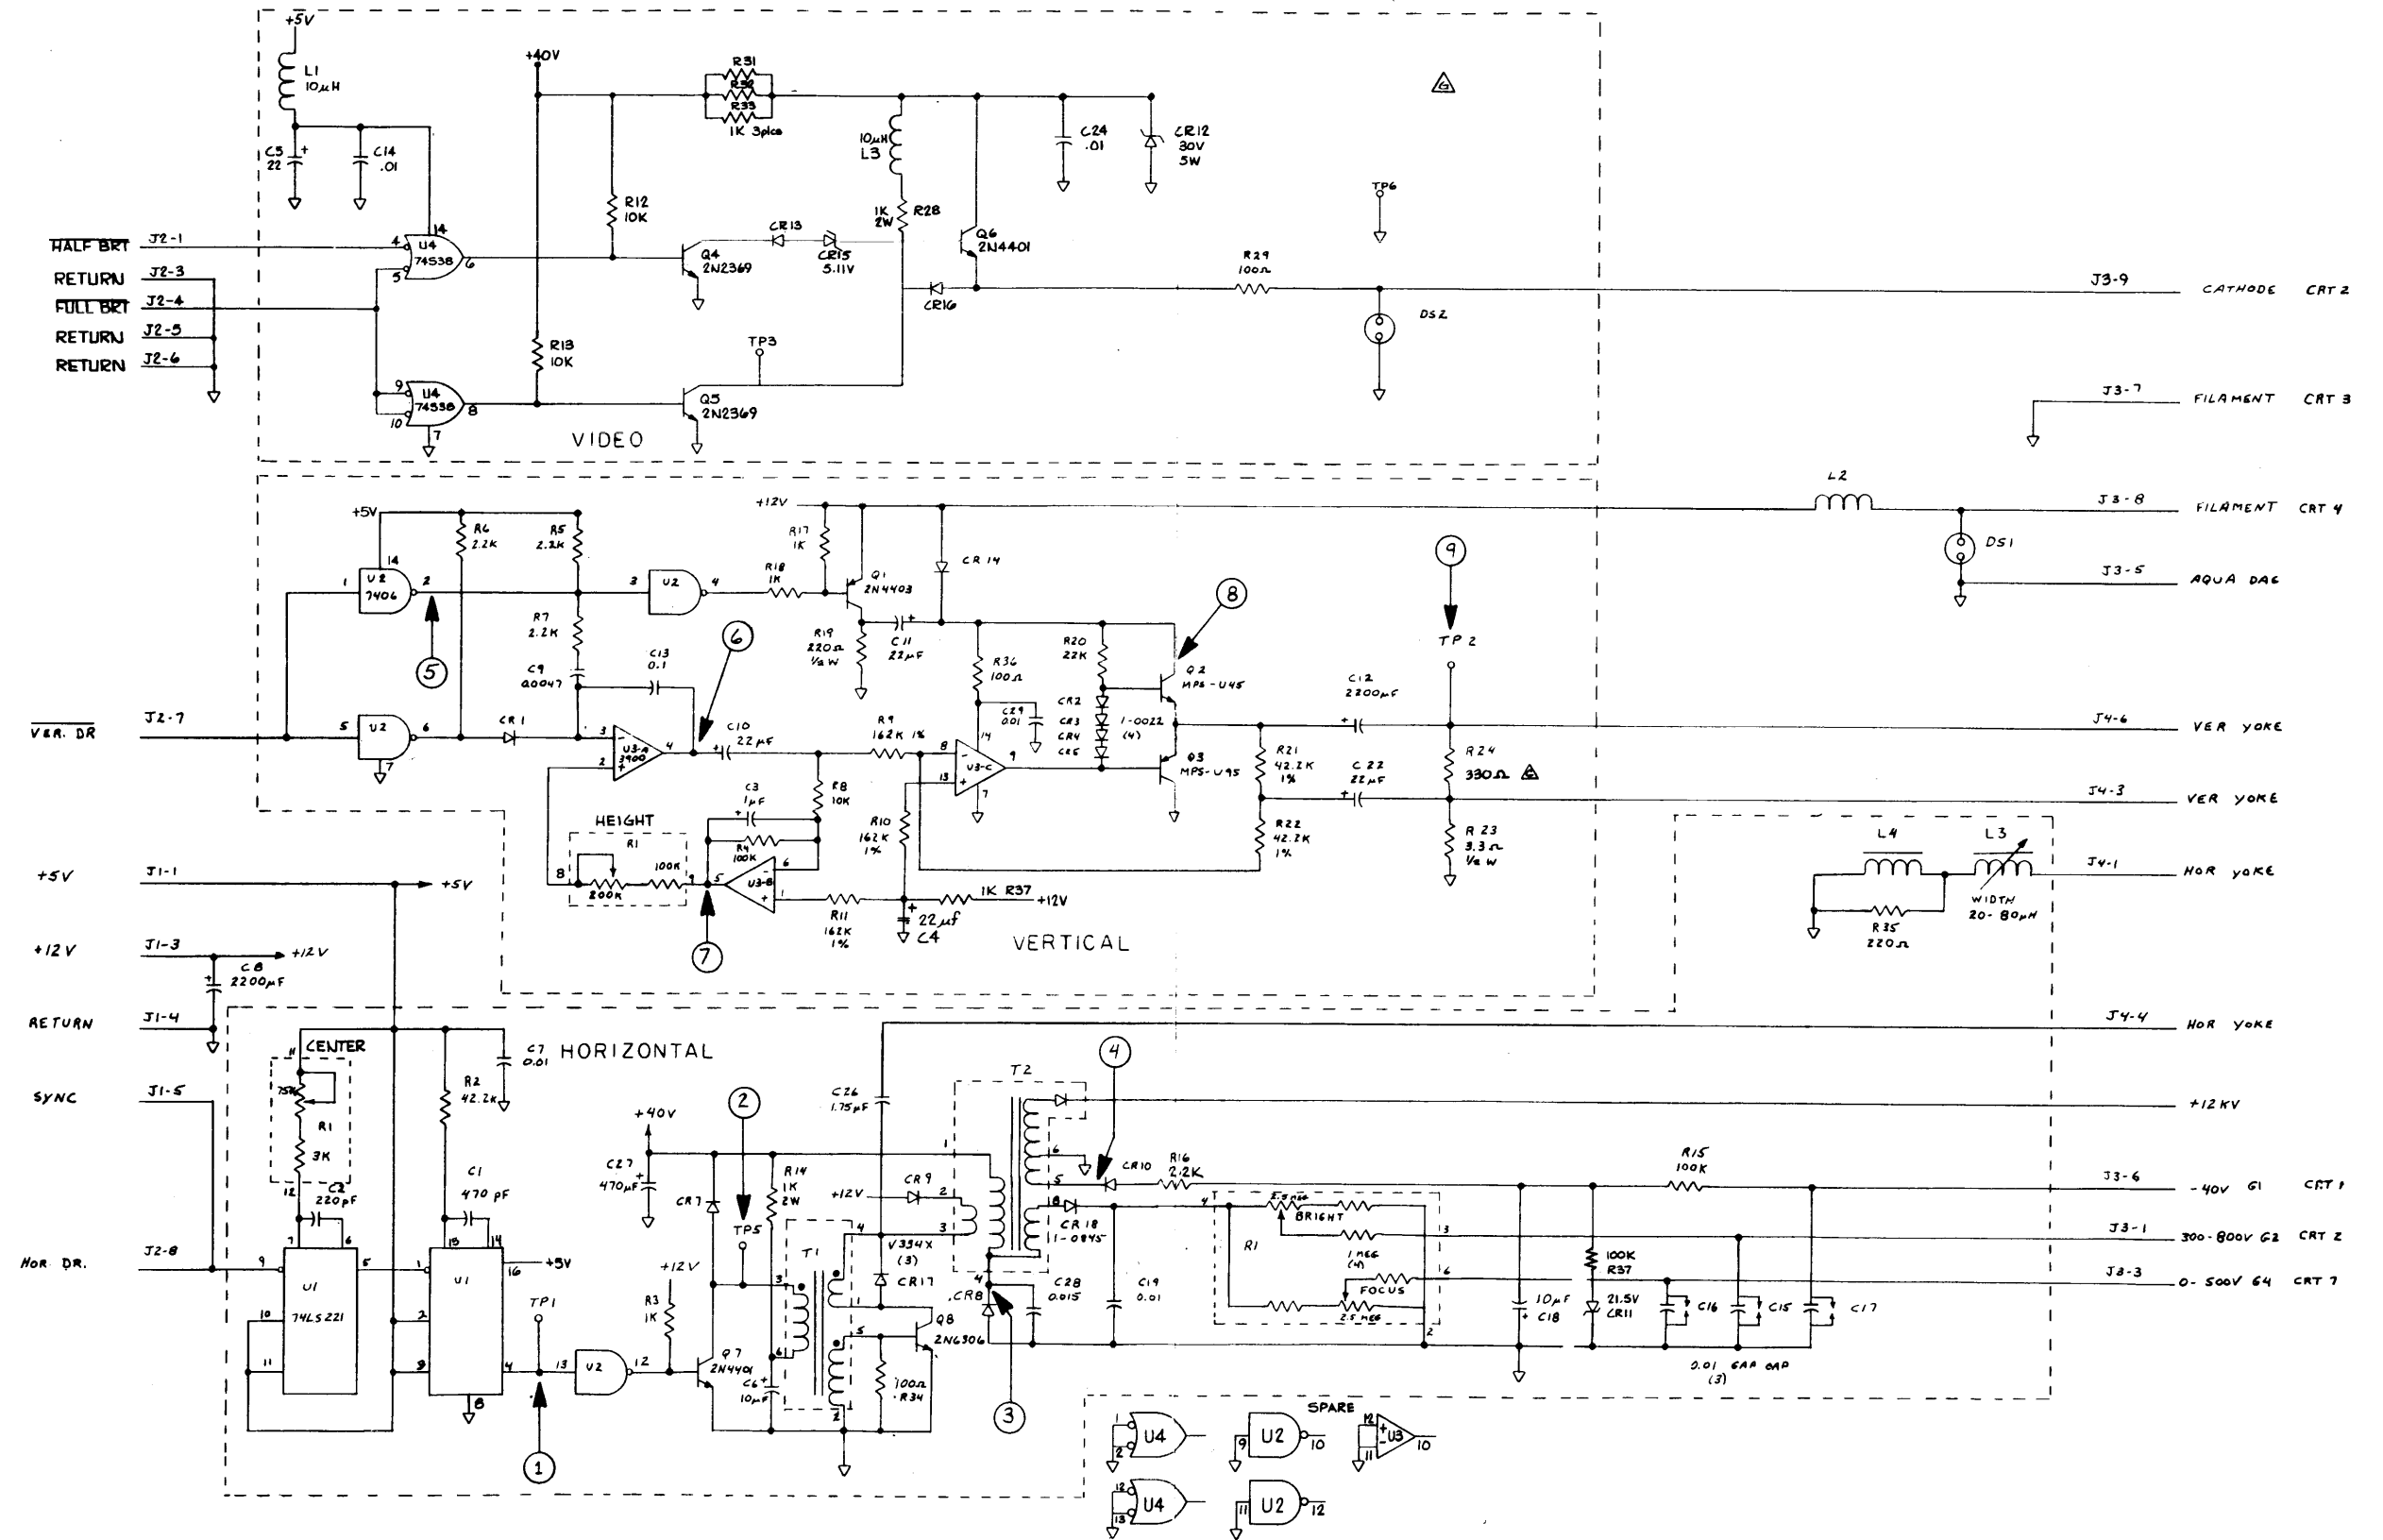
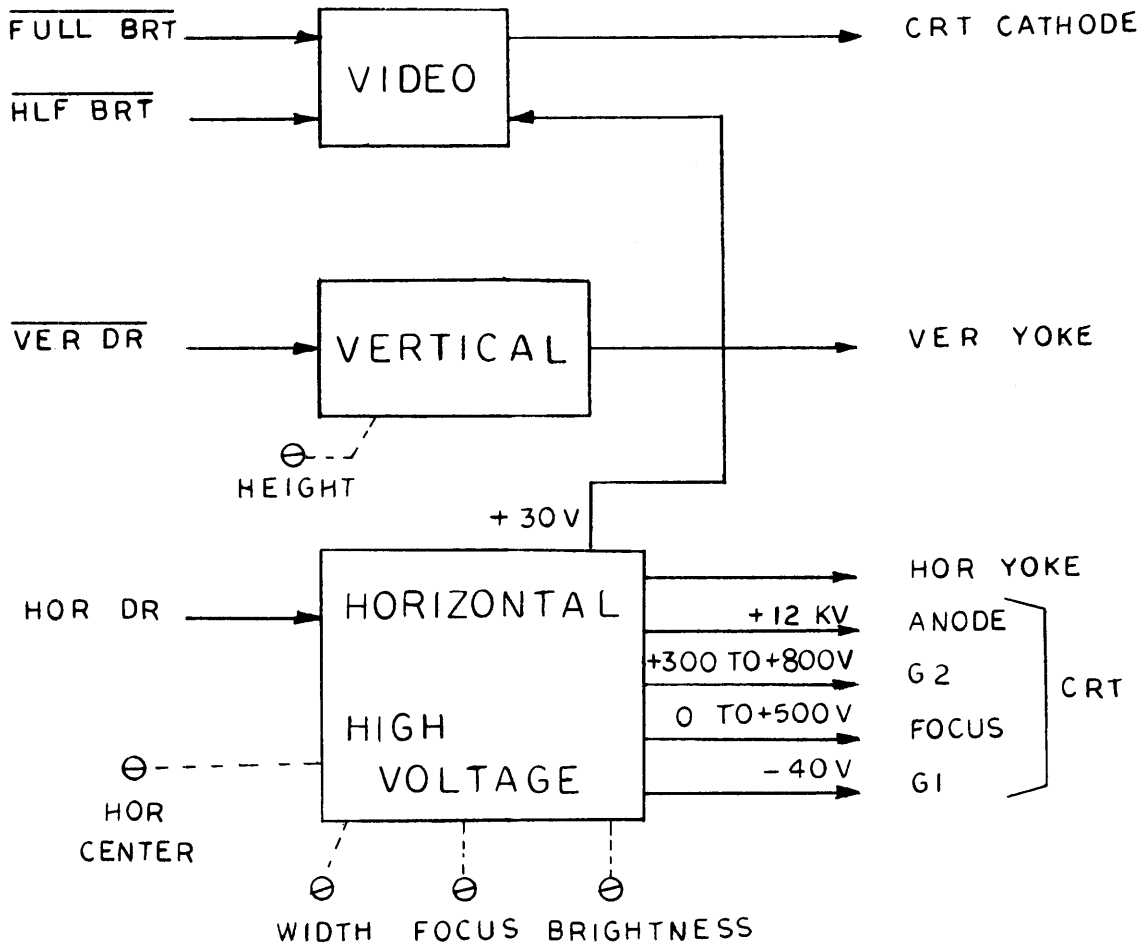
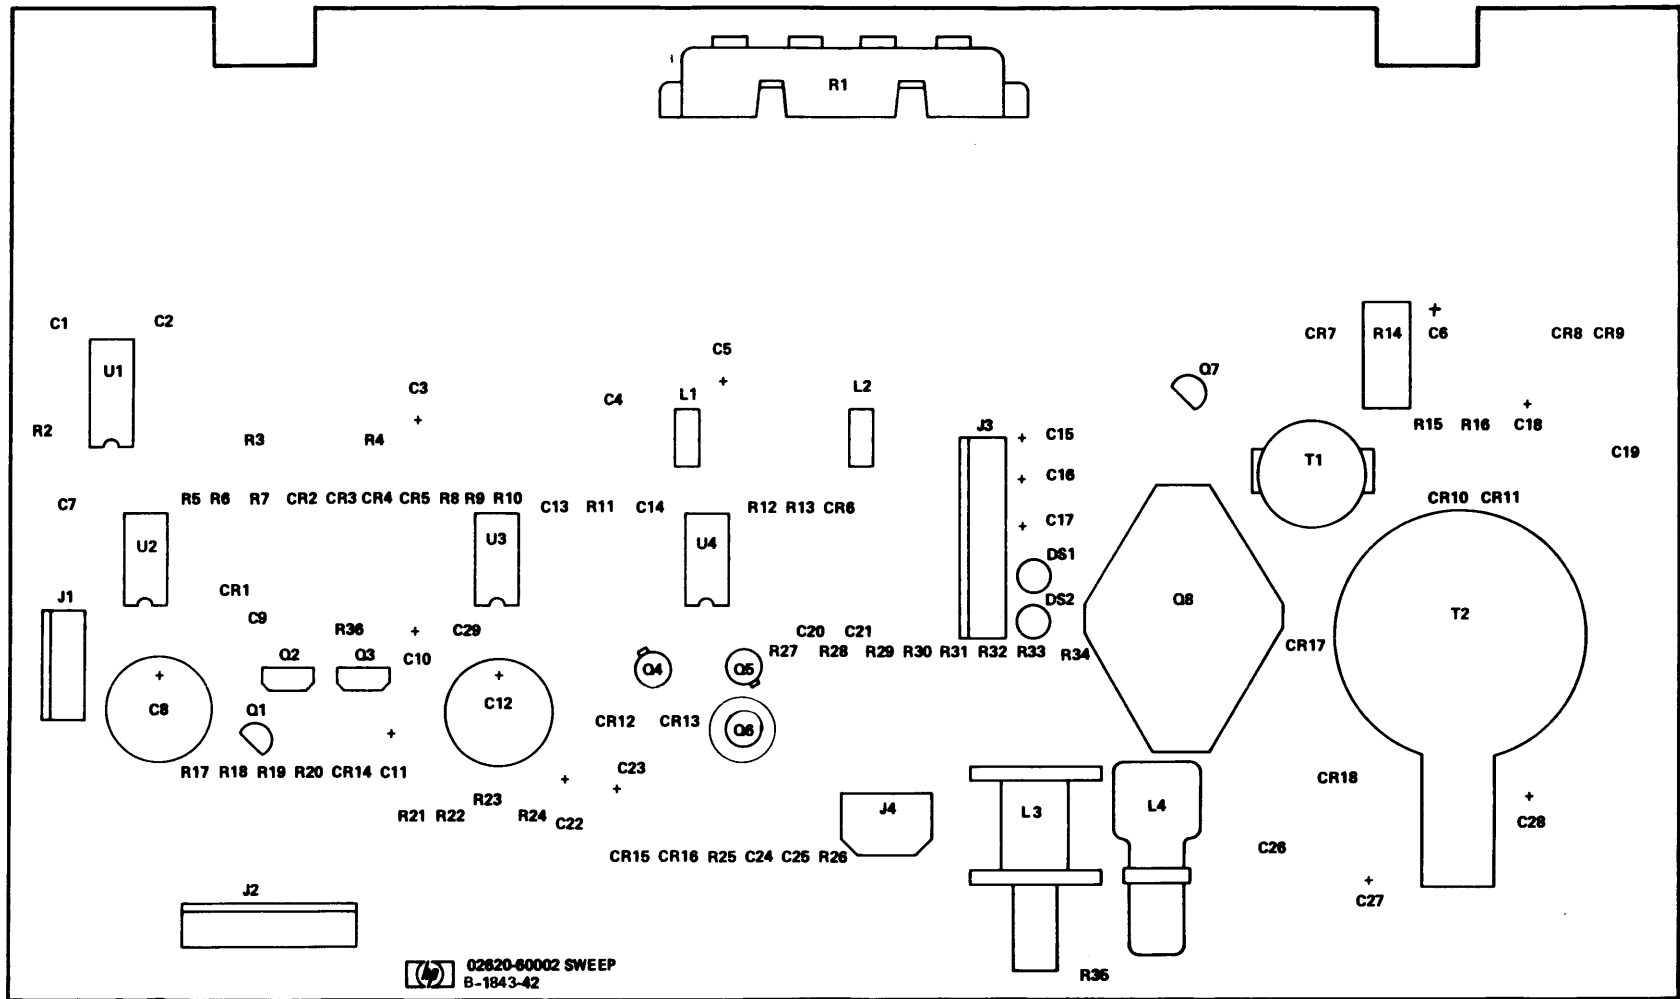

Figure 2
Figure 3
Figure 4
- 3.0 FUNCTIONAL DESCRIPTION. Refer to the block diagram (figure 1), schematic diagram (figure 2), timing diagram (figure 3), the component location diagram (figure 4), and parts list (02620-60002) located in the appendix.